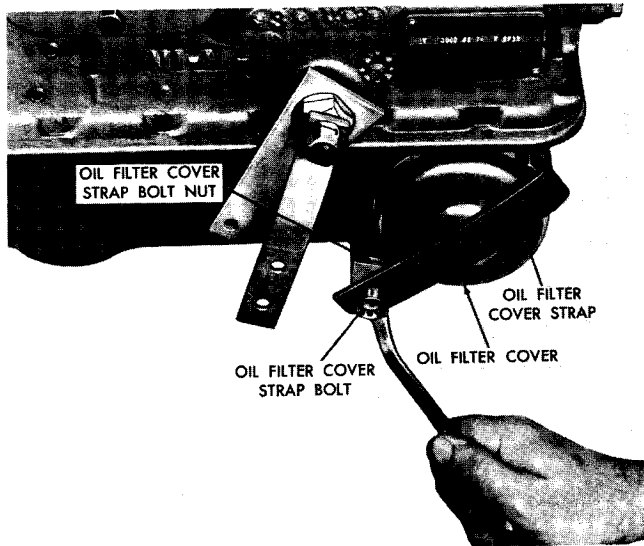

Fig. IV-1 Removing oil filter cover strap bolt
b. Remove the nut and bolt which retain the oil filter cover strap while holding the oil filter cover to prevent its falling off (fig. IV-1). Remove the cover strap.